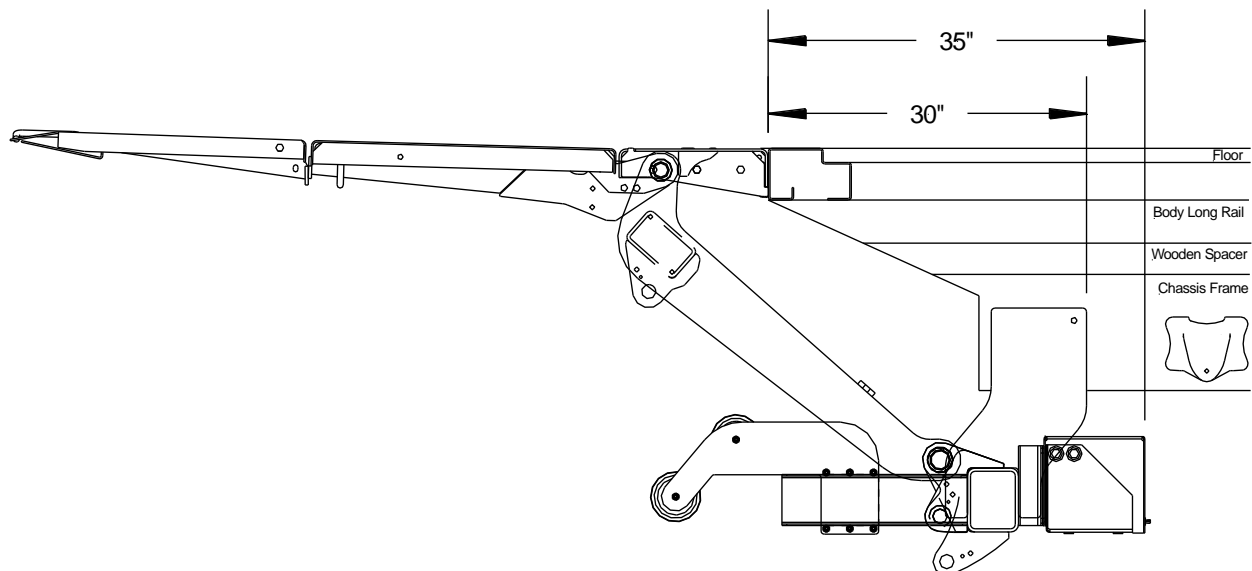

Fig.6
- Minimum clearance area required for a PLR liftgate to install on a vehicle is 30". Clearance area should be free of any obstructions that will prevent the installation of the liftgate, **Fig.6**.